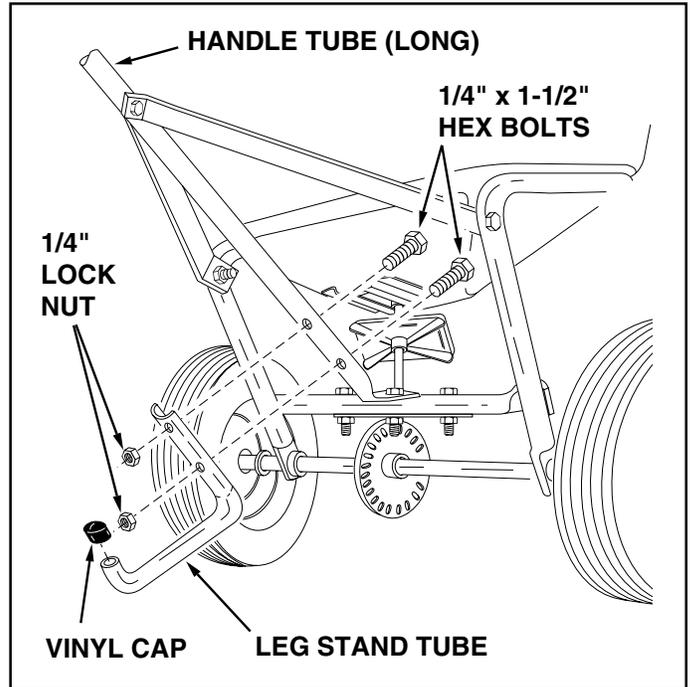

FIGURE 6
13. Assemble the leg stand tube to the handle tube (long) using two 1/4" x 1-1/2" hex bolts. Secure tightly with two 1/4" hex lock nuts. See figure 6.
14. Place a vinyl cap over the end of the leg stand tube. See figure 6.